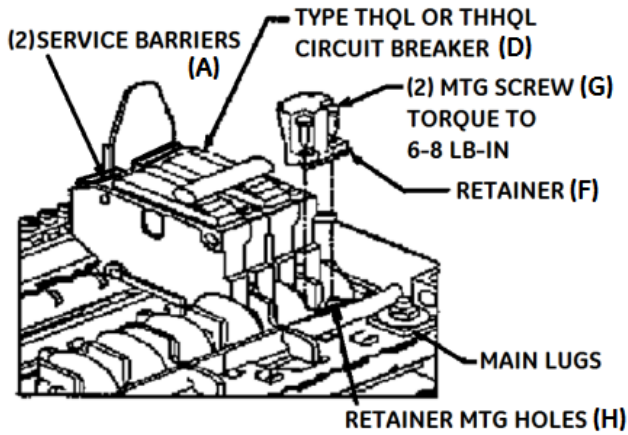

Figure 2: Install Retainer to Secure Breaker
3. Install the 2-pole back-fed main circuit breaker (D) on either side of the two stabs nearest to the main lugs of the load center shown in Figure 2.
4. With the circuit breaker still in the "OFF" position, install the retainer (F), as shown below by aligning to the retainer mounting holes (H). Tighten two mounting screws (G) to 6-8 lb-in. See Figure 2